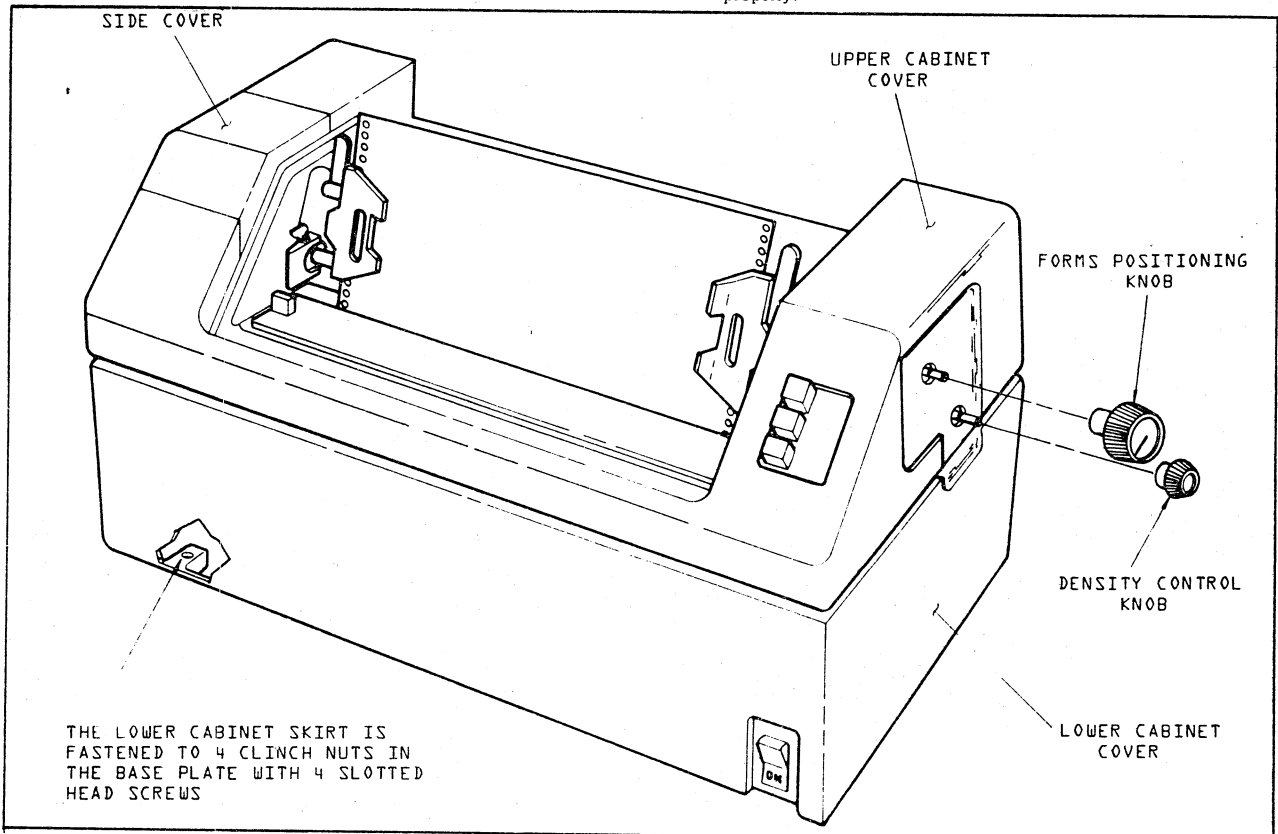

FIGURE 2-1 PRINTER ACCESS
3. Remove the two knobs located on the right side of the cabinet cover by pulling them off their shafts (Figure 2-1).
4. Remove the upper cabinet cover from the lower cabinet skirt (Figure 2-1).
5. Remove the four screws that mount the lower cabinet skirt to the base plate and remove the lower cabinet skirt (Figure 2-1).
20. Replace the cabinet skirt and mount it to the base with its four mounting screws (Figure 2-1).
21. Replace the upper cabinet cover on the lower cabinet skirt (Figure 2-1).
22. Replace the two knobs located on the right side of the cabinet cover by pushing them on to their shafts (Figure 2-1).